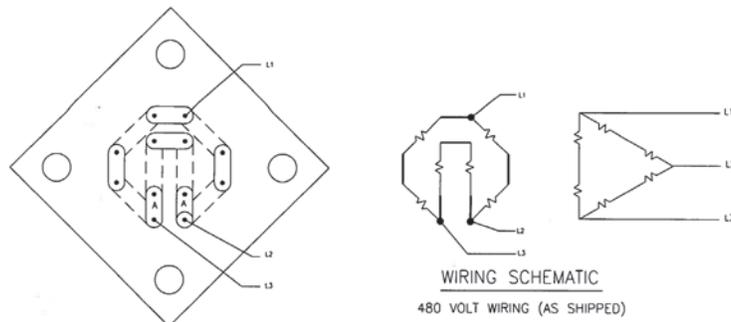

Figure 1
- Move sheet metal busbars (item A) to different location (see Fig 1)
- Remove busbar B (see Fig 1)